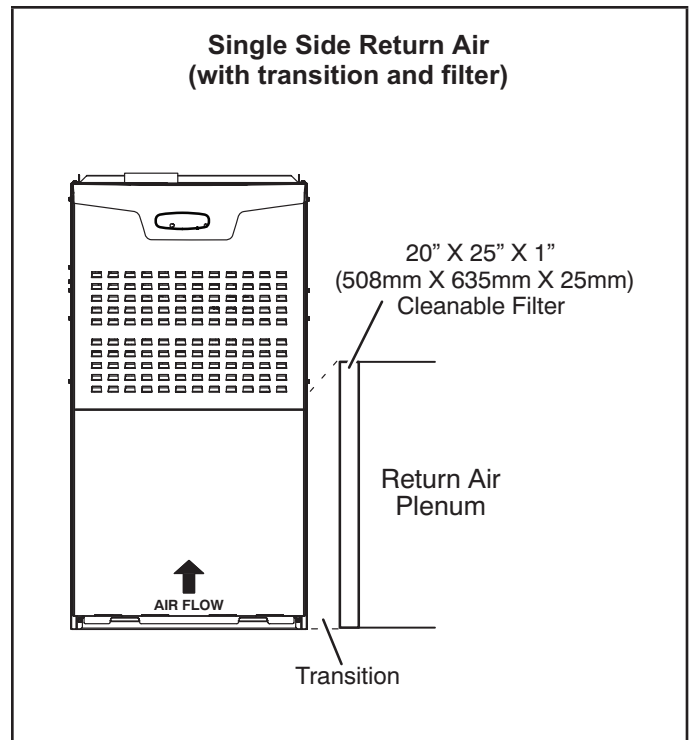

Figure 8
- 1 - Single side return air with optional return air base with transition that must accommodate required 20 x 25 x 1 in. (508 x 635 x 25 mm) air filter to maintain proper air velocity.) See figure 8.